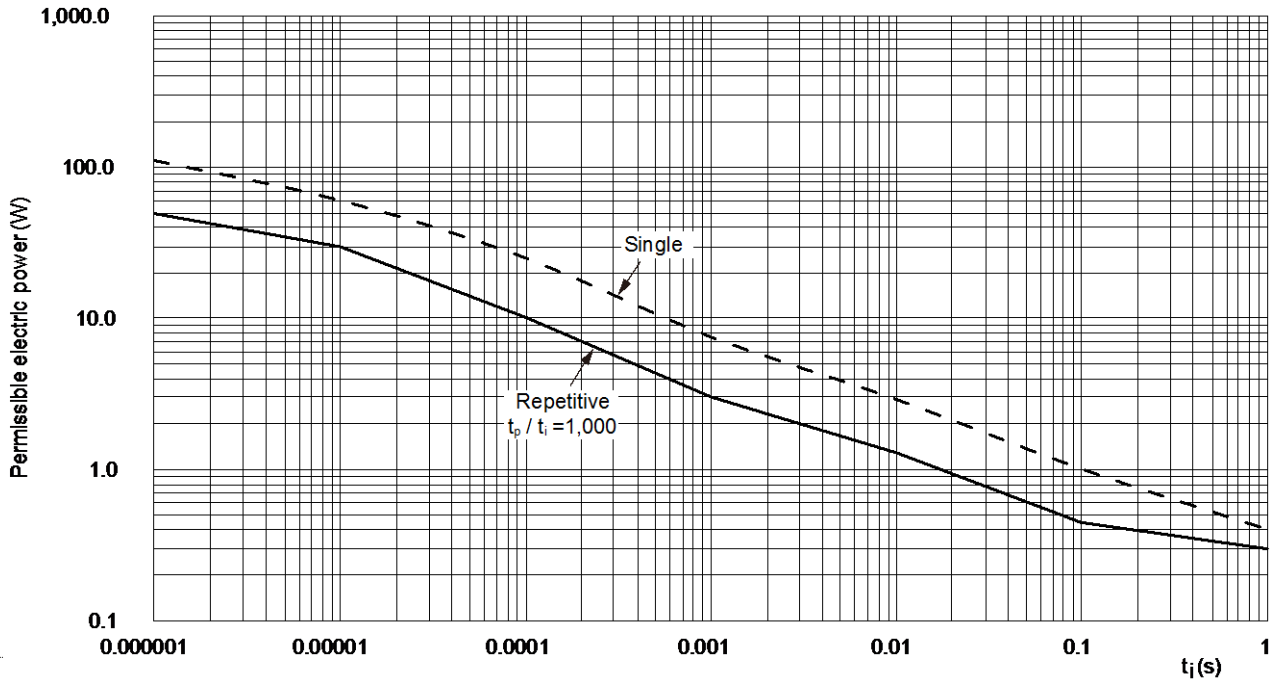
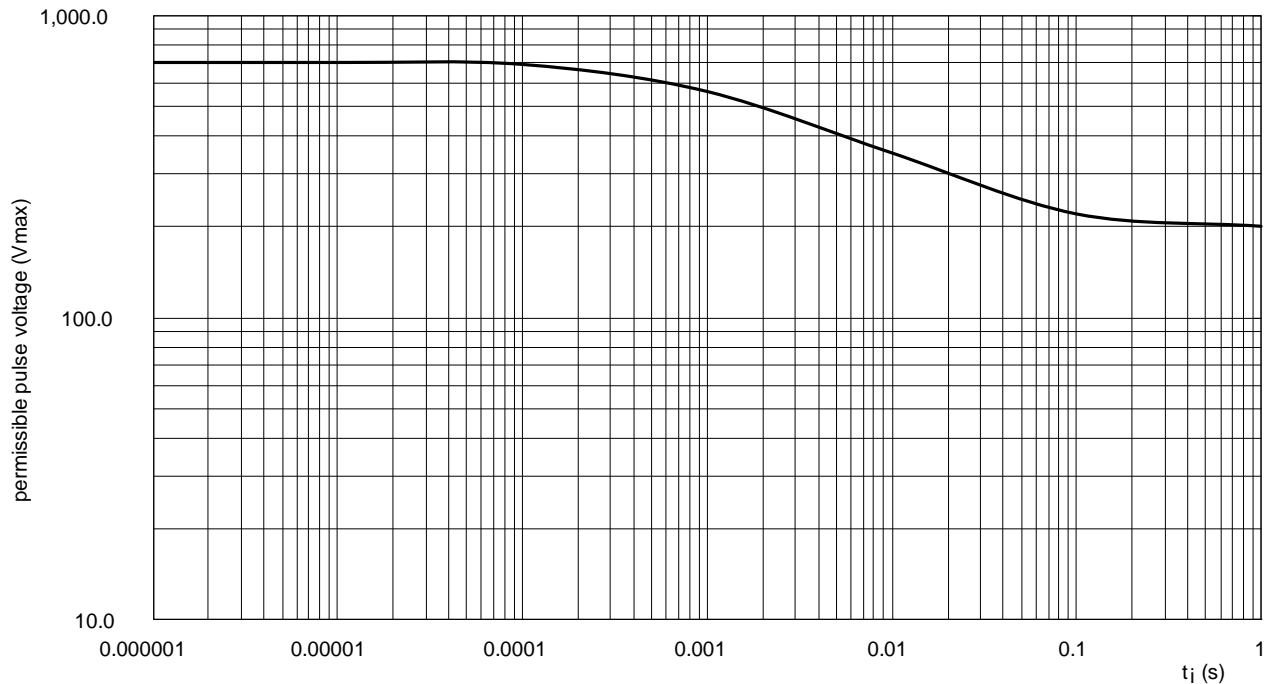

Fig. 12 Maximum permissible peak pulse power as a function of pulse duration  $t_i$ , single pulse and repetitive pulse  $t_p / t_i = 1,000$
Fig. 13 Maximum permissible peak pulse voltage as a function of pulse duration  $t_i$
The dashed line in Fig. 12 shows the observed maximum load for the Size 1206 chip resistors under single-pulse loading.
However, maximum peak pulse voltages as indicated in Fig. 13, should not be exceeded.
The graphs in Figs 12 and 13 may be used to determine the maximum pulse-load for a resistor.
- $\frac{\hat{V}_i^2}{R}$  must be lower than the value of  $\hat{P}_{max}$  given by the solid lines of Fig. 12 for the applicable value of  $t_i$  and duty cycle  $t_p/t_i$ .
- $\hat{V}_i$  must be lower than the value of  $\hat{V}_{max}$  given in Fig. 13 for the applicable value of  $t_i$ .
- $\frac{\hat{V}_i^2}{R}$  must be lower than the  $\hat{P}_{max}$  given by the dashed line of Fig. 12 for the applicable value of  $t_i$ .
$\hat{P}_{max}$	maximum permissible peak pulse power (Fig.12)
For  $t_i = 10^{-5} \text{ s}$  and  $\frac{t_p}{t_i} = 1,000$ , Fig. 12 gives
$$\hat{P}_{max} = 2 \text{ W} \text{ and Fig. 13 gives } \hat{V}_{max} = 400 \text{ V}$$
The dashed curve of Fig. 12 shows that at  $t_i = 10^{-5} \text{ s}$ , the permissible  $\hat{P}_{max} = 10 \text{ W}$  and Fig. 13 shows a permissible  $\hat{V}_{max}$  of 400 V, so this resistor may be used.